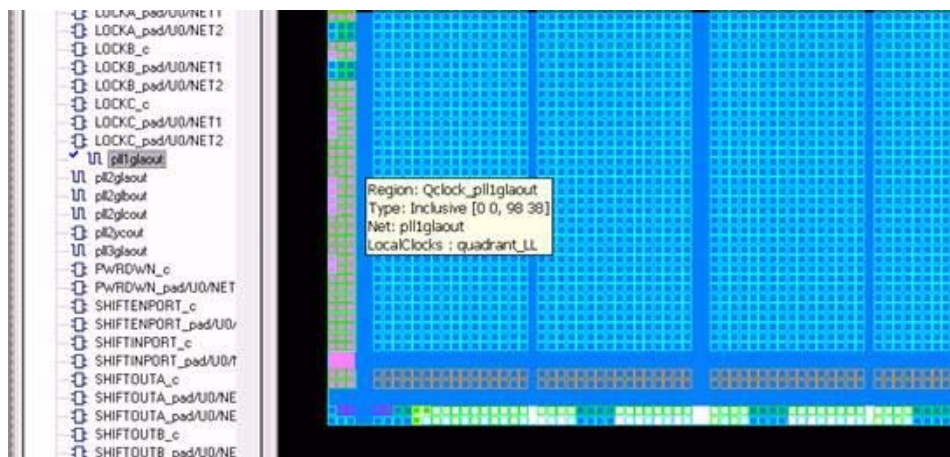

Figure 3-32 • Quadrant Clock Assignment for a Global Net
- Use quadrant global region assignments by finding the clock net associated with the CCC macro under the Nets tab and creating a quadrant global region for the net, as shown in Figure 3-32.